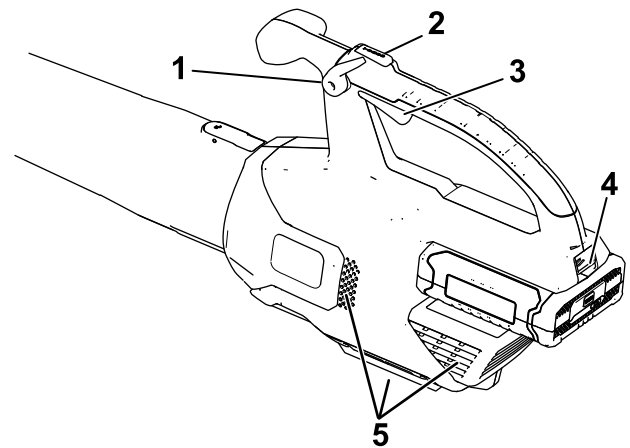

Figure 4
2. To start the blower, squeeze the variable-speed trigger (Figure 4).
**Note:** Engage the speed lock to keep the machine on without pressing the variable-speed trigger (Figure 4).
To accelerate the blower speed, press and hold the turbo boost button for the desired amount of time (Figure 4).
To adjust the air speed as you blow, use the variable-speed trigger (Figure 4).
To maintain the current air speed, engage the speed lock (Figure 4).
To shut off the blower, disengage the speed lock (if in use) and release the variable-speed trigger (Figure 4).